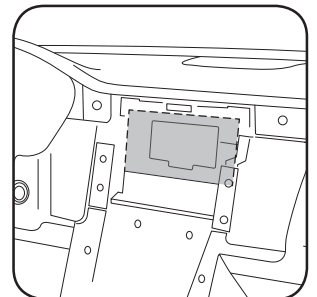

Fig. 1.8
7. Trim the plastic behind the OEM screen. (Fig. 1.8)